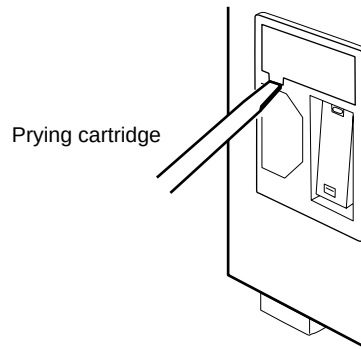

Figure 5-1 Removing the Fuseholder Cartridge
- 1 Remove the fuseholder cartridge by inserting a small slotted screwdriver into the slot, as illustrated in Figure 5-1.